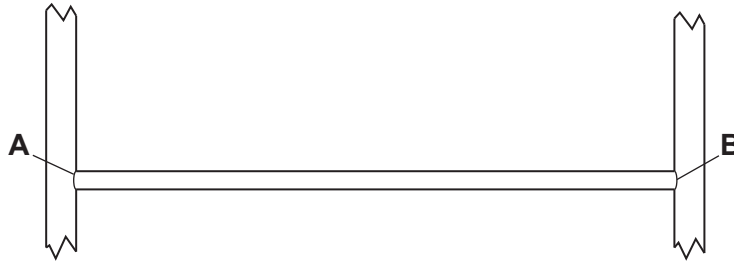

Fig. 10.2
- (iv) A part view of joints **A** and **B** of the trestle frame is shown in Fig. 10.2. Use sketches to show a gusset plate at point **A** and a strut at point **B**, positioned to reduce any movement in the frame of the trestle. Add notes to show how the gusset plate and strut will be fixed in position.